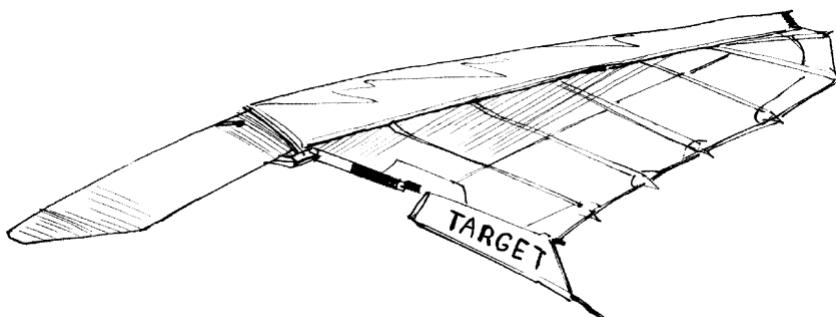

Fig. 6
2.1.8. Lay and spread the sail. Spread the leading edge of the sail so that there are no folds and bends in it. Pushing the mylar film by both edges insert it into the leading edge pocket. Bow - shaped edge of the mylar film must pass on the side of the seam that joins the top and bottom surface and the leading edge of the sail (Fig. 6).